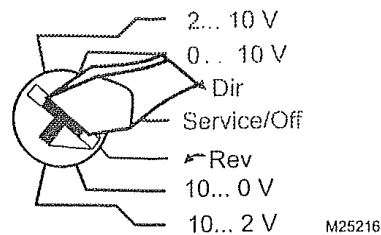

Figure 1
6. Adjust the selector screw on top of the mixing valve actuator to the 10... 2V position. See Figure 1.